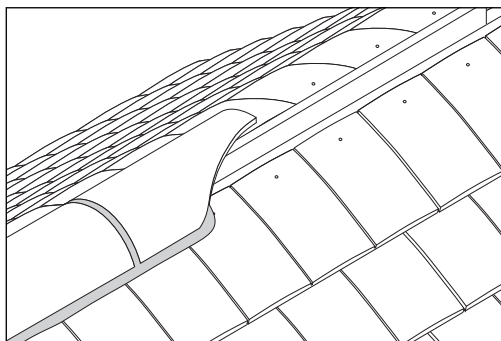

Fig 27 – Typical bedded ridge
- Ensure that a minimum 75mm cover is provided by ridge tile over top course of tiles with any exposed mortar neatly pointed (Fig 27).